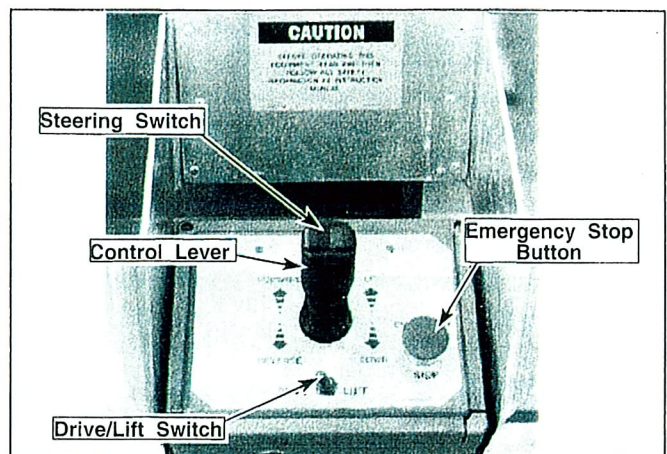

Figure 2: Proportional Controller
16. Turn the Chassis Key Switch (Figure 2) to **DECK**.